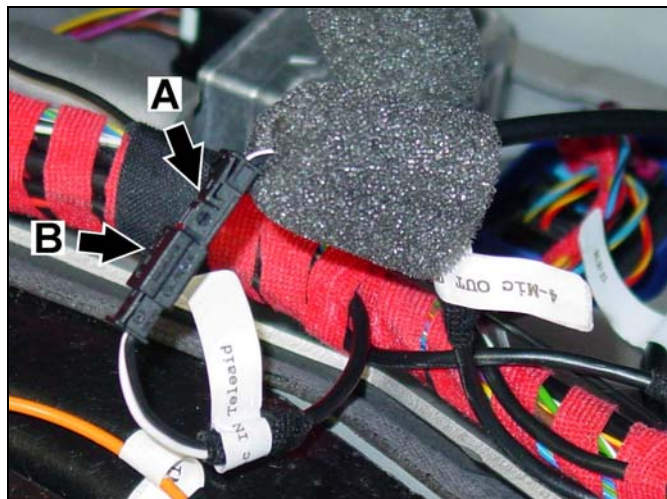

Figure 33
- 2-pin female connector labeled “4 - MIC.OUT TEL” (A, Figure 33)
- 2-pin male connector labeled “8 - MIC.IN Teleaid”) (B, Figure 33)
4. Connect the 2-pin female connector labeled “4 - MIC.OUT TEL” (A, Figure 33) to the 2-pin male connector labeled “8 - MIC.IN Teleaid”) (B, Figure 33).